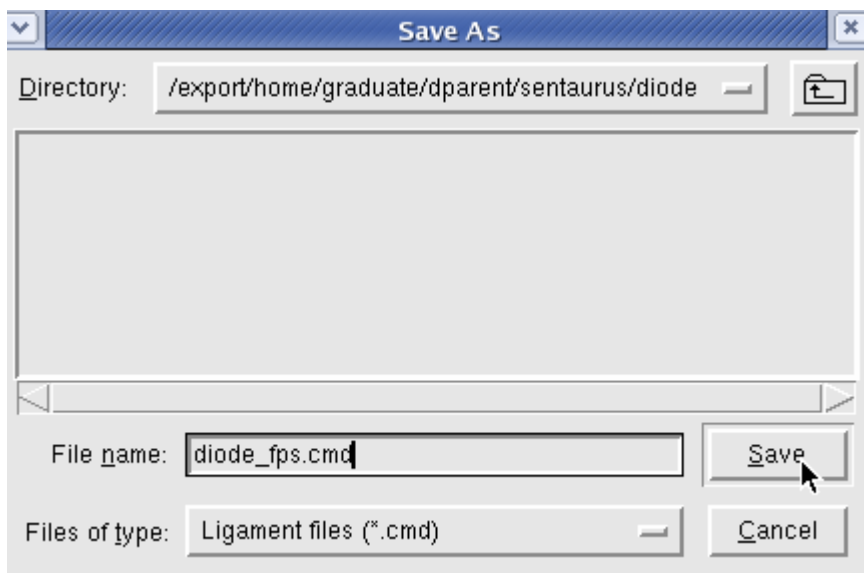

Figure 44: File name for process flow.
14. Save the files as diode_fps.cmd (Figure 44).